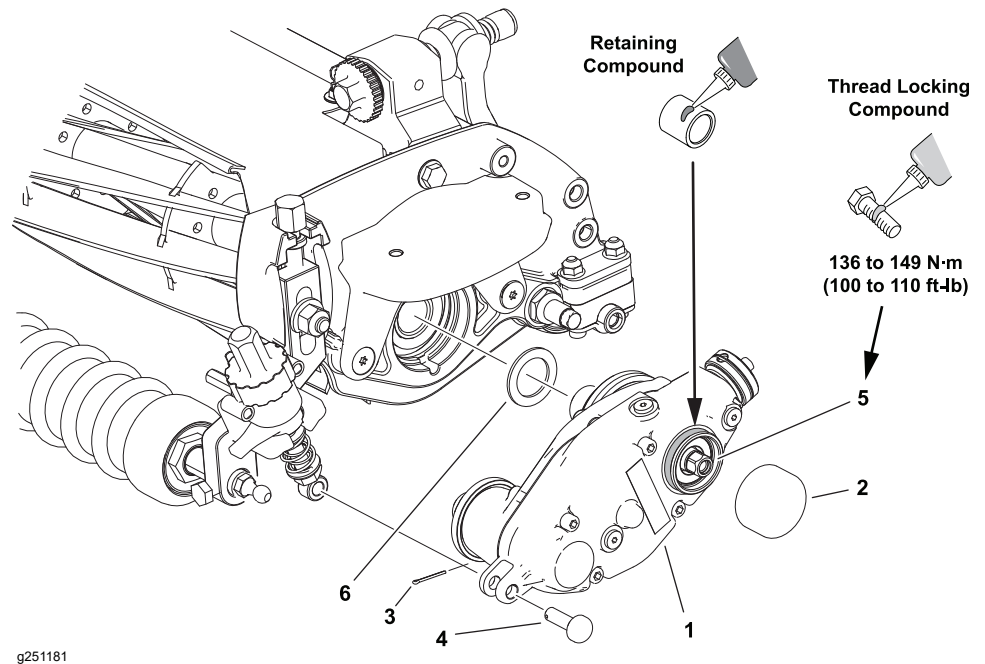

Figure 18
10. For cutting units with the groomer drive assembly on the left side, retrieve the shim (item 6 in Figure 18).
12. For cutting units with the groomer drive assembly on the left side, retrieve the shim (item 6 in Figure 18).